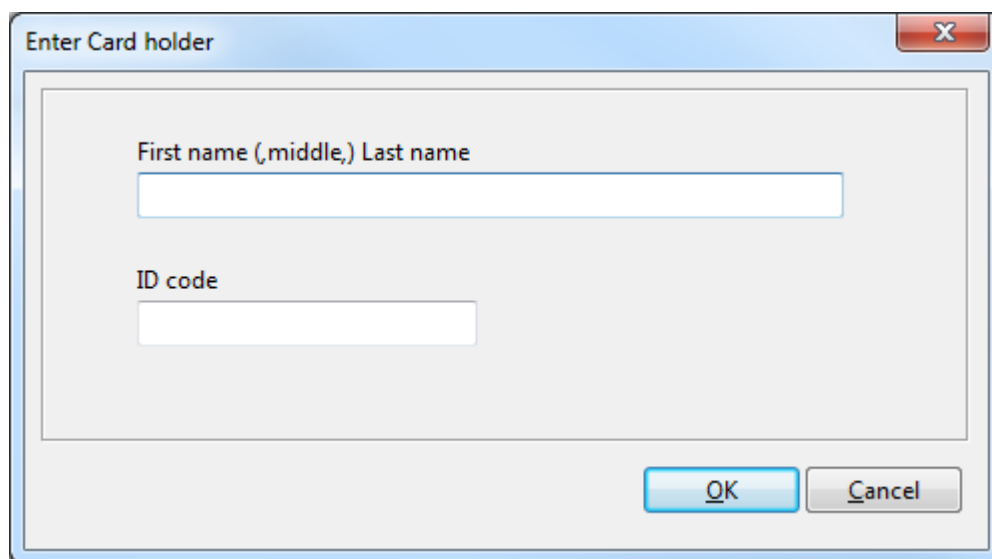
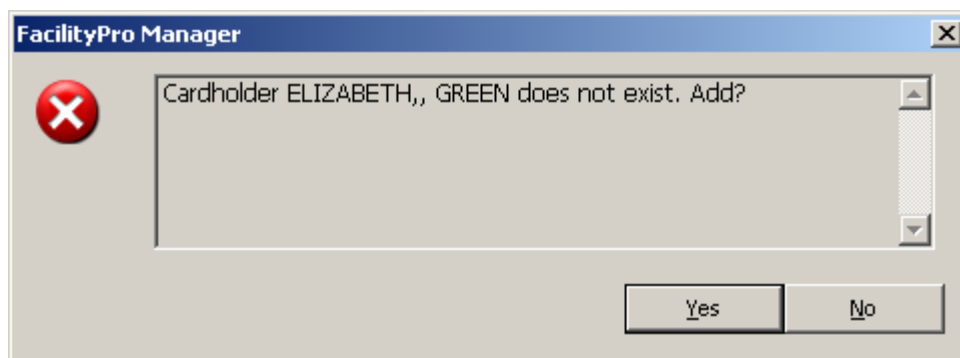

Figure 3-2
Figure 3-3
5. Edit the field 'Cost centre' and any other fields of the data entry area that you wish to fill in or change (§2.1.2.4). If you want to fill in an existing card holder for this card and you know the name, you can choose the card holder from the drop-down list (if you have selected a cost centre). If you want to create a new cardholder, you can use the action button **New** next to the card holder field and fill in the name (format [First name (,middle,) Last name]) and (optional) the ID code of the new card holder in the dialog screen shown in Figure 3-2, and then click **OK**. When you save the new card you will be asked if you wish to add the new card holder to the card holder table (Figure 3-3) and should click **Yes**. If you want to fill in an existing card holder for this card and you know the ID code of the card holder, you can use the action button **New** next to the card holder field and fill in the ID code. FPM will show the name of the card holder with that ID code and you can confirm by pressing **OK**.